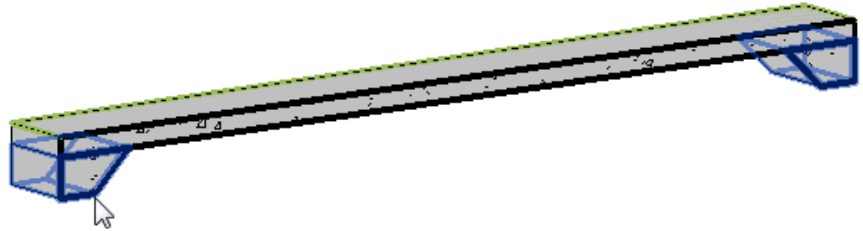

Figure 7–66
4. Foundation slabs often have slab edges as shown in a section in Figure 7–66. Which of the following is true of slab edges.